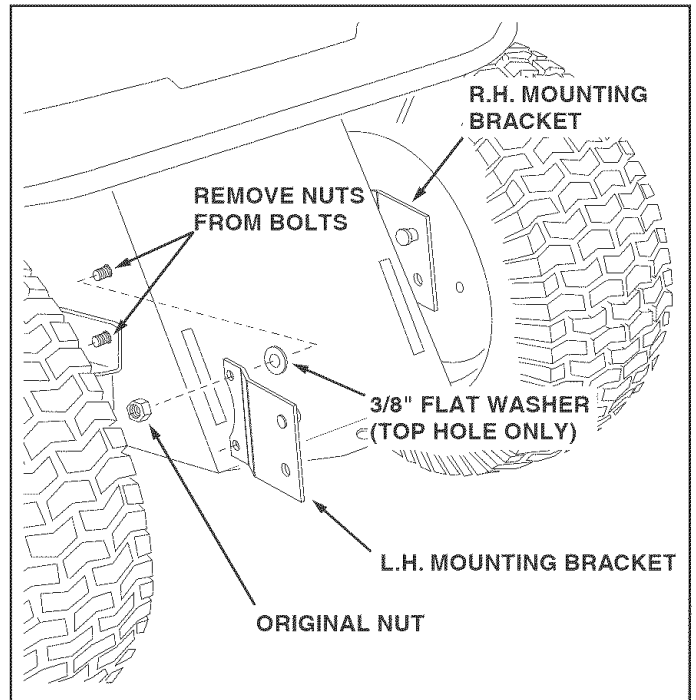

FIGURE 2
- Remove the nuts from the two bolts in each side of the tractor, leaving the bolts in place. See figure 2.
- Attach the left (LH) and right (RH) Mounting Brackets to the bolts using the original nuts and two 3/8" flat washers. The brackets should angle outward with the weld pins at the top of the brackets facing inward. See Figure 2.